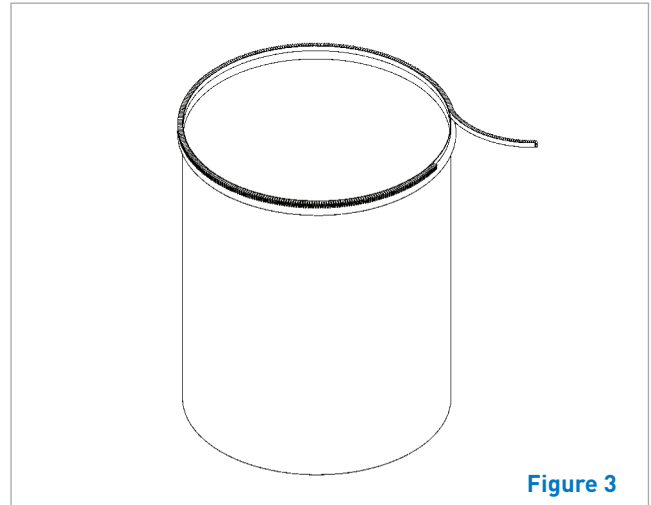

Figure 3
- Take the length of brush pile seal and remove the backing paper. Then wrap the pile around the top of the tube above the collar so that the ends butt tightly together. If necessary the brush pile can be cut to length with a sharp knife or scissors (Figure 3).